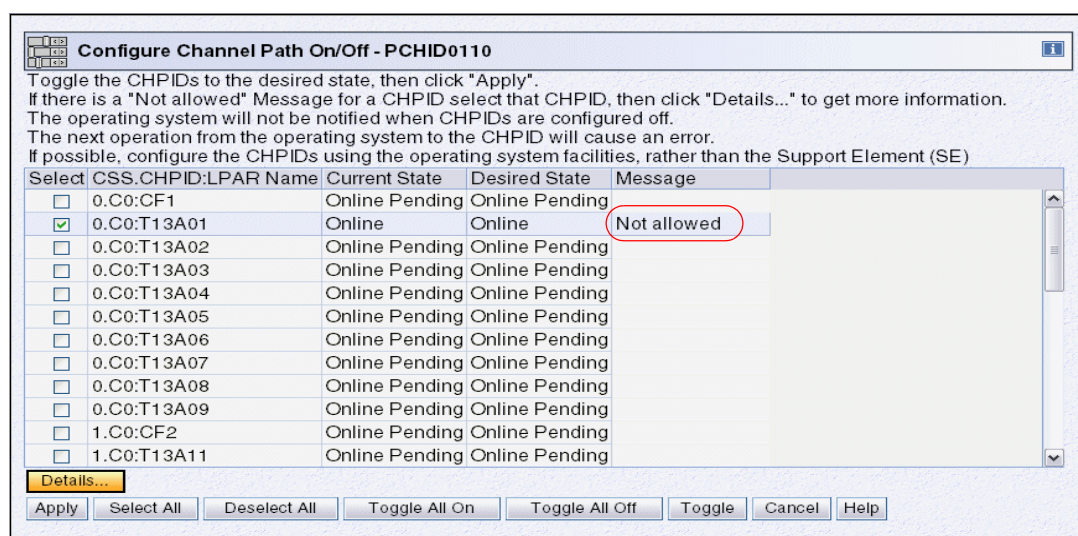

Figure 7-6 Configure Channel Path On/Off
3. The Configure Channel Path On/Off window displays the list of CHPIDs associated with the PCHID. In the example shown in Figure 7-6, PCHID 0110 has decades CHPIDs shared across logical partitions.